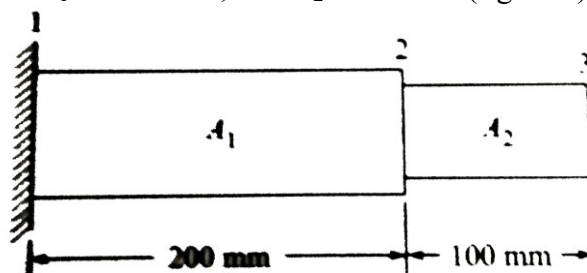

Figure 5
11. Draw the mode shapes of the following stepped bar. Take $E = 200$ GPa, specific weight 7850 kg/m^3 . Take $A_1 = 400 \text{ mm}^2$, and $A_2 = 200 \text{ mm}^2$ (figure 5). [10]